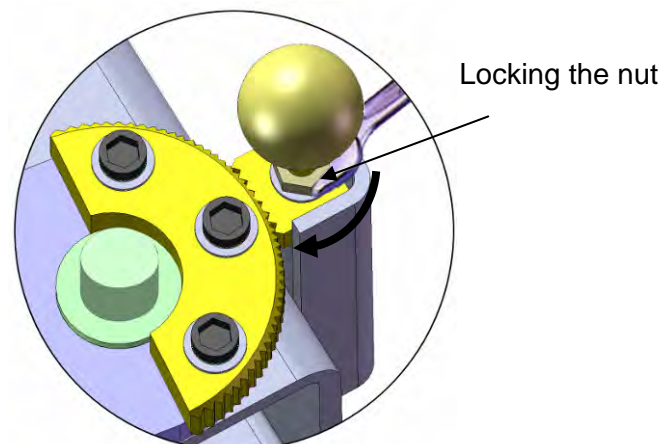

Fig. 23
4. Adjust the moon gear and arm lock so that it meshes, then tighten the nut of arm lock (See Fig. 23).